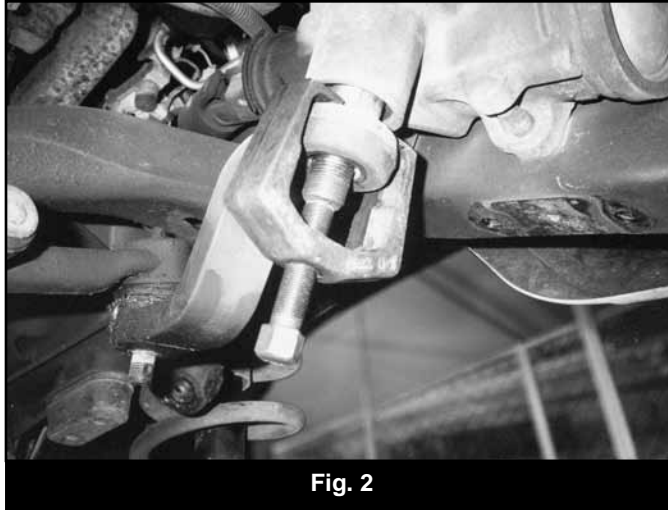

Fig. 2
7. Use a pitman arm puller to remove the pitman arm from the steering sector. Install new BDS drop pitman arm and retain with original fasteners. Torque to 185 ft. lbs. Do not attach drag link to the pitman arm at this time. (Fig. 2)